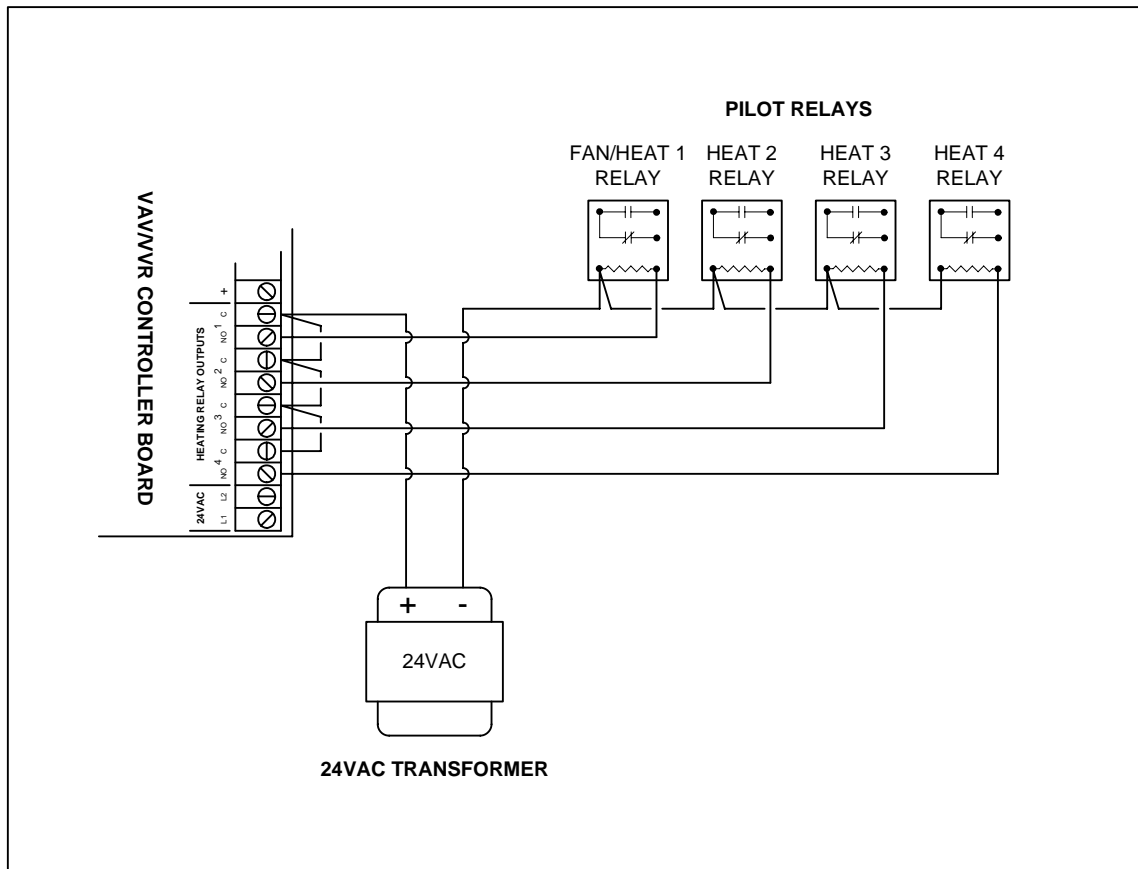

Figure 13: Typical VAV Pilot Relay Output Wiring
The VAV/VVR provides four (4) SPST relay outputs for control of box fans and/or electric heat strips. The outputs provide a normally open contact, and will interface with most box manufacturer control sequences. **Figure 13** shows output wiring utilizing external pilot relays.